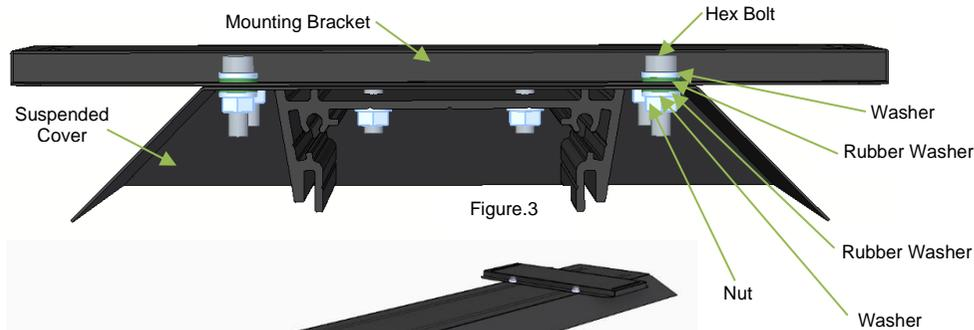
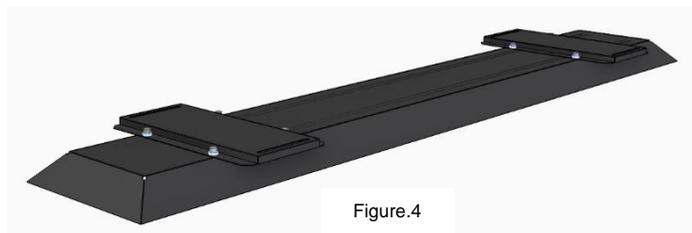

Figure.3
Figure.4
3. Nut and bolt the mounting bracket to the cover (Fig.3) there are 4 bolts per bracket to be fitted. There are 2 mounting brackets per cover (Fig.4)